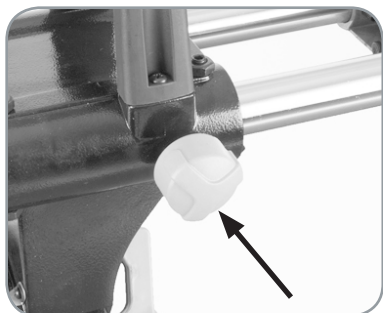

Fig. 23
- Tighten the slide lock screw. **(Fig. 23)**